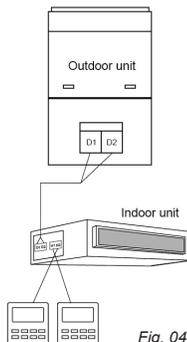

Fig. 04.2
(5) Wiring of wired controller and indoor unit network must be according to one of the four wiring method as shown in Fig. 04.1-04.4. As for the connection method shown in fig 04.2 and 04.4, there should be only one primary wired controller (address is 01) and one secondary wired controller (address 02). The quantity of wired controller can't exceed two.